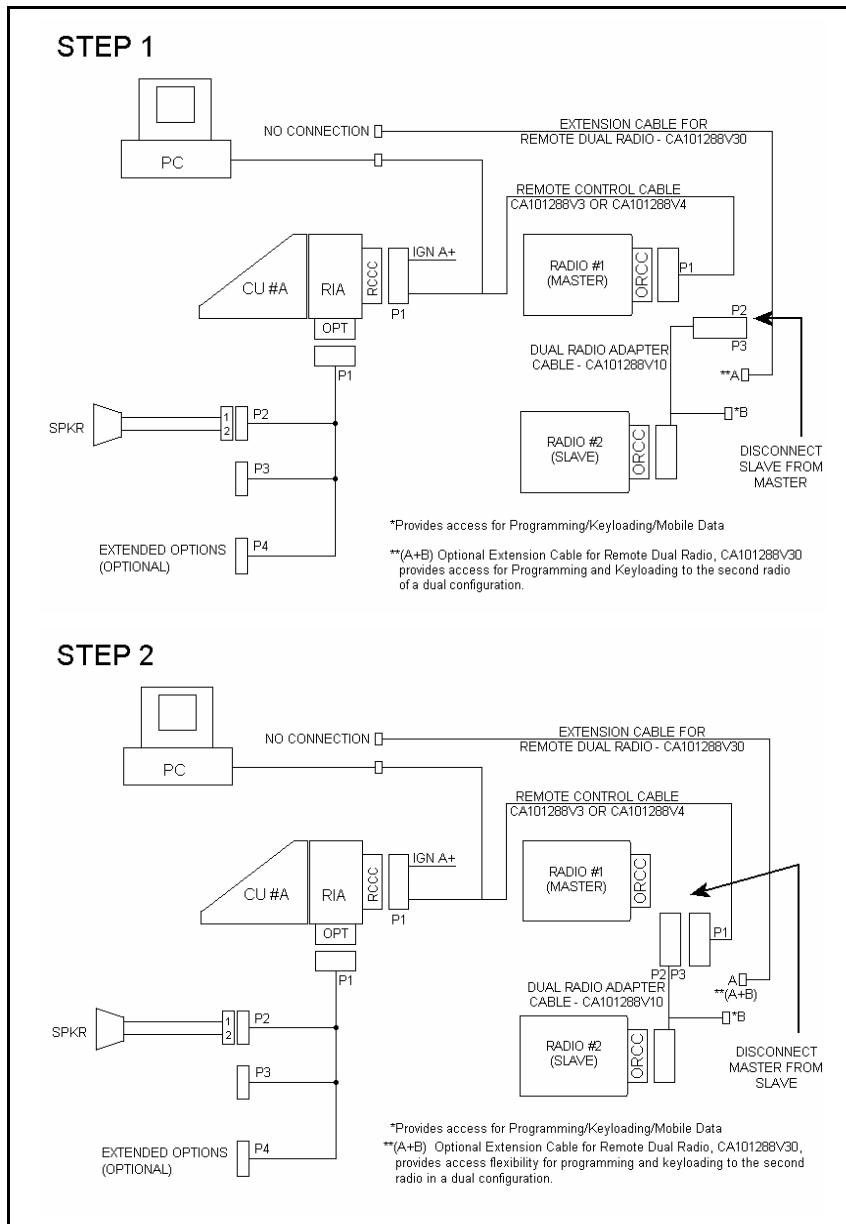

Figure 11-4: Dual Radio Configuration – Remote/Remote Mount PC Programming Procedure
1. Connect the M7100^{IP} Master Radio per the ProGrammer setup as shown in Figure 11-4, STEP 1 with the Slave Radio disconnected. Program the Master Radio with the control configurations per the Pre-Installation Programming Procedure with ProGrammer – Dual Radio Units and adjust as necessary for the desired application.
2. Connect the Slave Radio with ProGrammer as shown in Figure 11-4, STEP 2. The Master Radio should now be disconnected, with the Slave Radio connected as indicated. Program the Slave Radio with the configuration per the Pre-Installation Programming Procedure with ProGrammer – Dual Radio Units and adjust as necessary for the desired application.